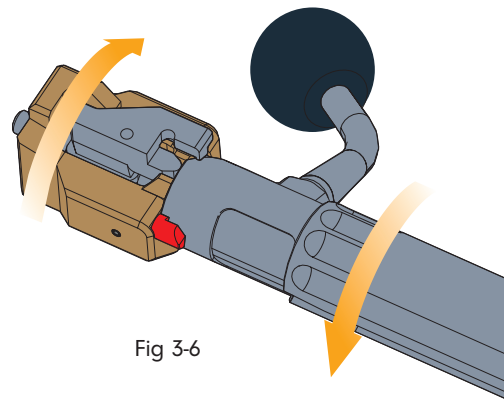

Fig 3-6
- When the firing pin spring is compressed, rotate the shroud as shown in Fig 3-6 until the location pin locks into the bolt body just before the fire position.